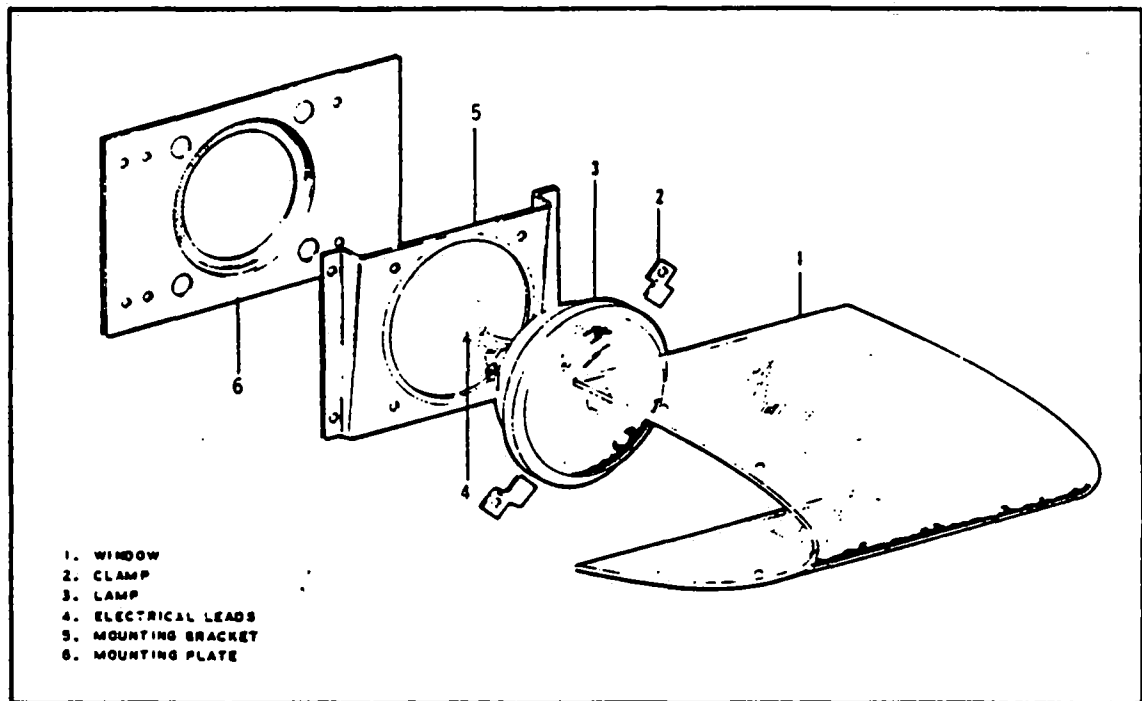

Figure 4-1. Landing Light Installation
##### 4-8. REMOVAL OF LANDING LIGHT. (Refer to Figure 4-1.)
- b. Remove the sheet metal screws from the landing light window assembly (1).
- c. Remove the machine screws and clamps (2) holding the lamp (3).
- d. Pull the lamp forward and remove the electrical leads (4) from rear of the lamp, then remove the clamp.
**4-9. INSTALLATION OF LANDING LIGHT. (Refer to Figure 4-1.)**
- b. Connect the electrical leads (4) to the back of the lamps (3) and secure the lamp to the mounting brackets (5). Ascertain that the lamp will light.
- c. Install the landing light window (1).